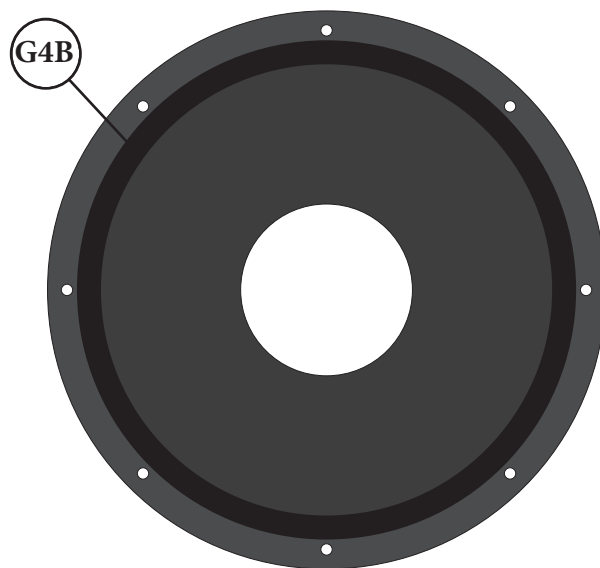

FIG. 3
Apply Gasket (G4B) to the top flange of the Cone (D) inside the bolt holes making sure that there is no gap where the ends meet [FIG. 3].